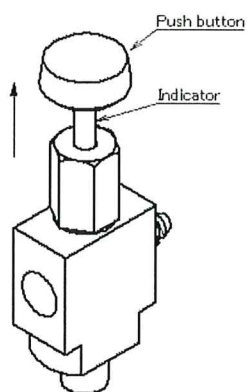

Figure. 2
- ② When the grease sent by pressure from the pump is sent to the grease checker through the distribution valve, the indicator attached to the grease checker strokes up to confirm the grease can be made sure to being sent. (Figure 2)